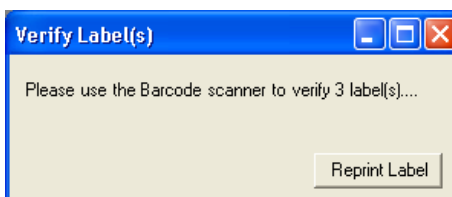

Figure 5 Barcode verification window
- If the device passed the tests three labels (cB-7434-01, BOM pos 3) will be printed and a window will appear according to Figure 5. Please follow the instructions and verify the three labels using the barcode scanner.